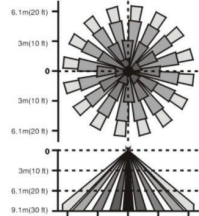

Fig1 Sensor Coverage Area
• 15to 20 ft (4.57 to 6.1 m) radial coverage overlaps area lit by a typical high bay fixture (refer to Fig 1).